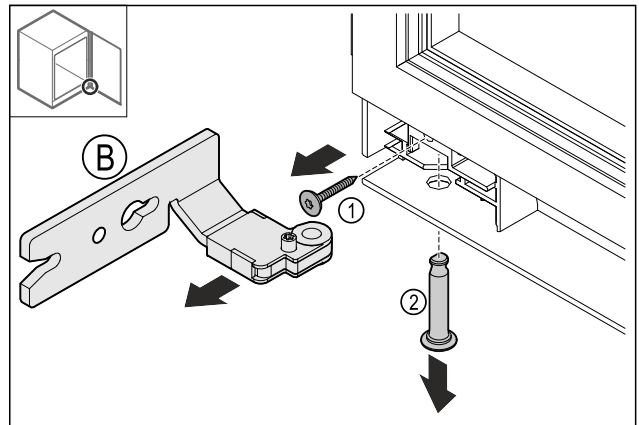

Fig. 16
- Remove the screw Fig. 16 (1).
- Remove the pin Fig. 16 (2).
- Remove the hinge Fig. 16 (B).